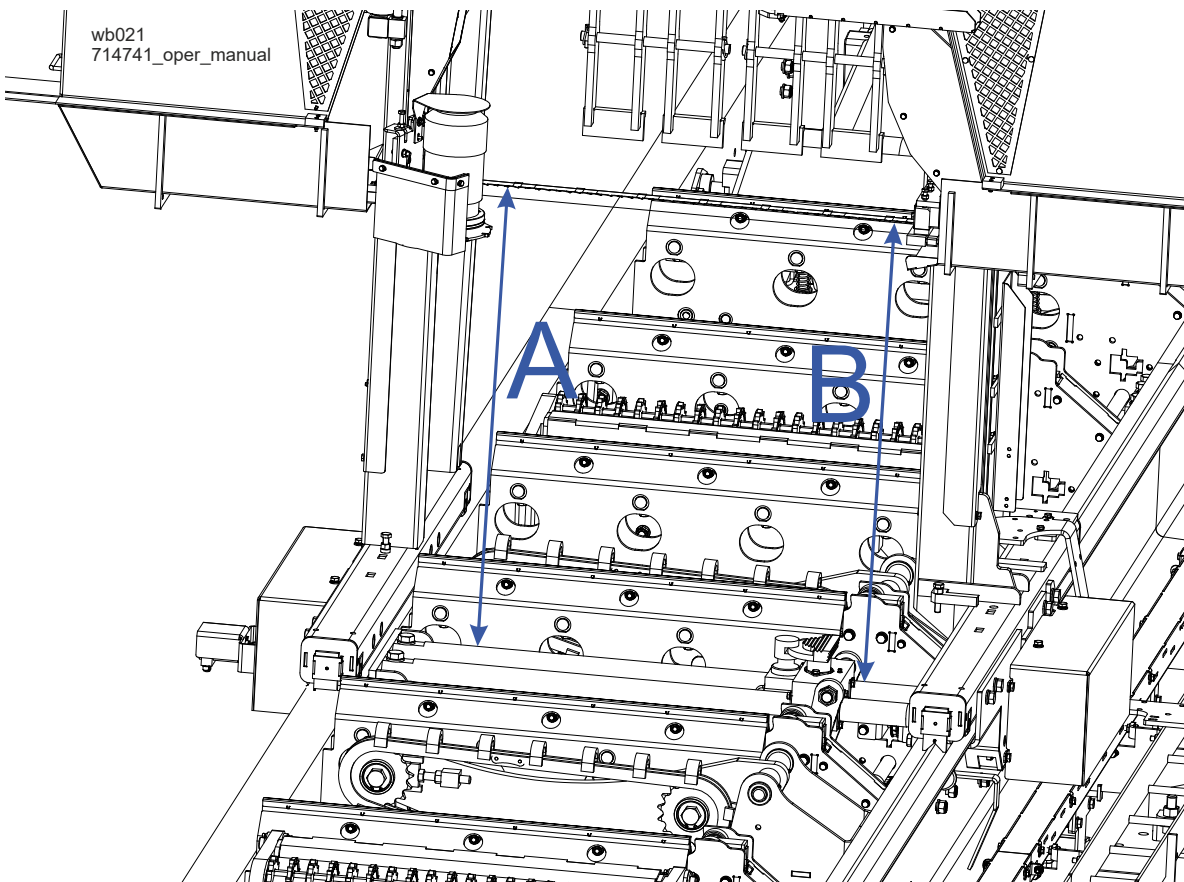

FIG. 5-9
See Figure 5-9 Make sure the blade guide blocks do not touch the blade. Position the saw head over the log clamp. Measure the distance from the rod of the blade clamp near the left (A) and right (B) blade guides. The measurements should be the same. If not, it is necessary to adjust the saw head tilt.